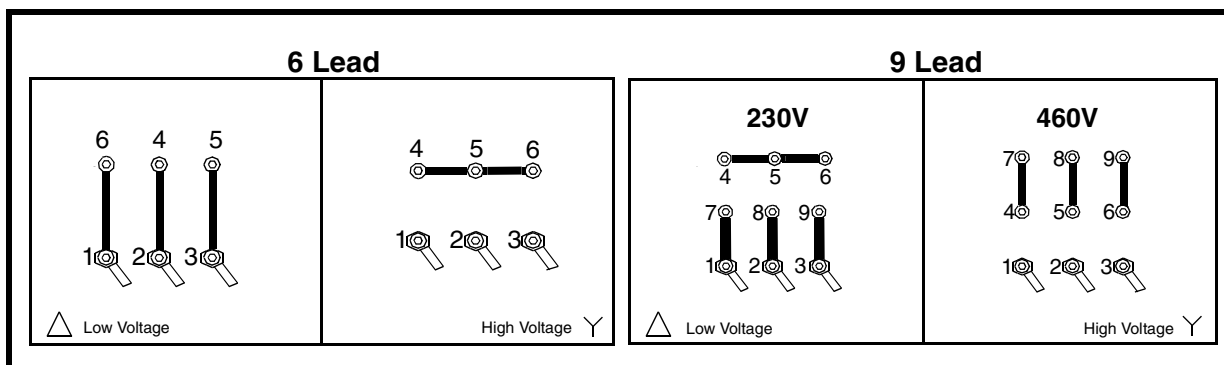

Figure 2. Wiring Diagrams
2. Wire vibrator according to appropriate wiring diagram inside terminal box or see Figure 2. Use closed loop wire connectors only.